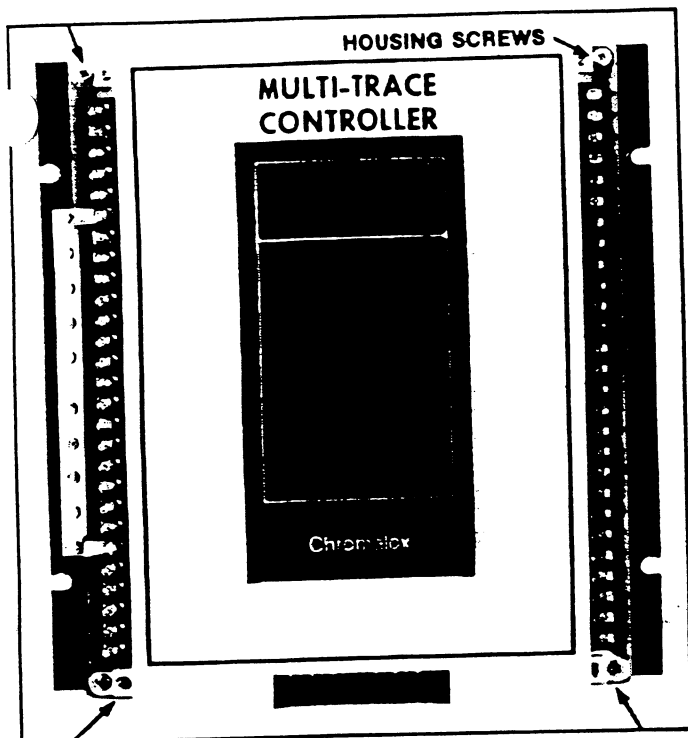

FIGURE 4-3
1. Loosen the four innermost corner screws which secure the housing to the electronics module, as shown by the arrows in Figure 4-3. (Note: At each corner, there are two screws. Loosen the innermost screw. The outermost screw fastens the electronics assembly to the mounting brackets